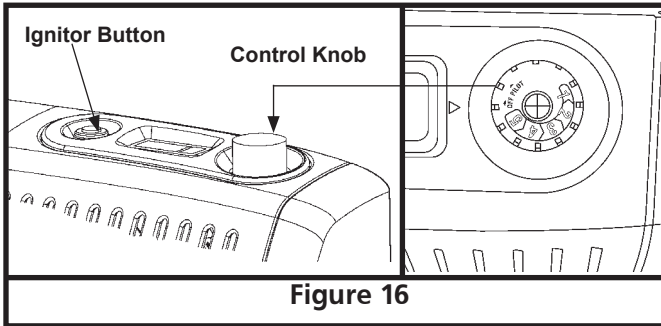

Figure 16
3. Push in gas control knob and slightly turn clockwise ↷ to the OFF position (see figure 16).